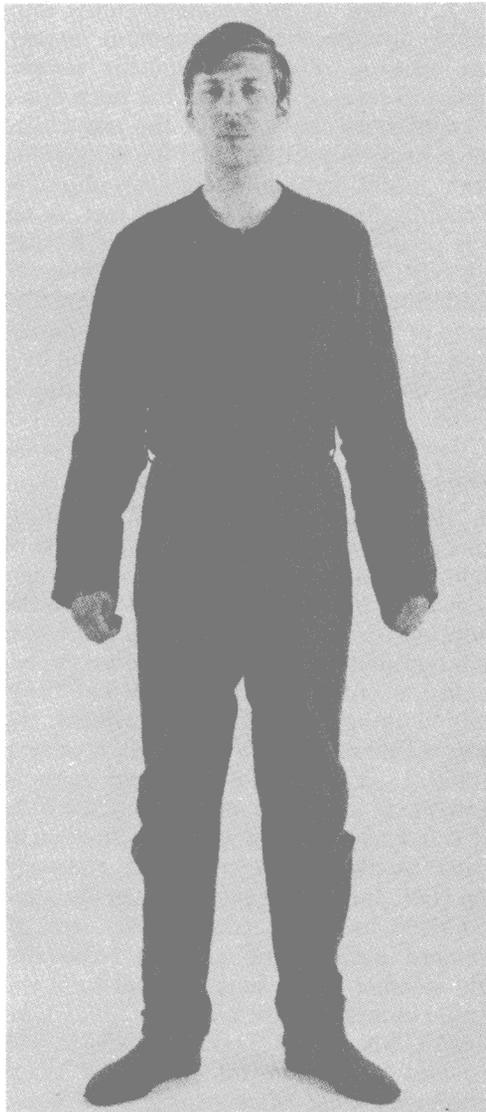

Fig 1. Inner Coverall, Aircrew, NBC Mk 1 and Socks, Aircrew, NBC Mk 1
10. **Inner Coverall NBC Mk 1.** Investigations of the shortcomings, in the context of flight operations, of the protective overgarment used by ground personnel led to the adoption for aircrew of an NBC protective undergarment which is worn directly beneath the outer layer of the current "normal" clothing assembly. This garment, the Inner Coverall Aircrew NBC Mk 1, shown in Fig 1, is a ventile one-piece garment available in nine sizes and constructed from the standard CB fabric which is coated on its inside surface with activated charcoal. The NBC Inner Coverall has been designed and sized to ensure compatibility with all standard outer flying clothing (coveralls, cold weather flying suits, combat suits and ventile immersion overalls) AND IN COMBINATION WITH THESE GARMENTS provides protection for up to 24 hours continuous wear after exposure to liquid CW agents. However, the activated charcoal lining of the NBC Inner Coverall is degraded by direct contact with sweating skin and a minimum of one layer of clothing comprising long limbed fine cotton ribbed underwear must be worn beneath the NBC Inner Coverall. When low environmental temperatures or survival considerations dictate the wearing of additional thermal insulative garments such as the Coverall, Inner Mk 2, these garments also must be worn BENEATH the NBC Inner Coverall.